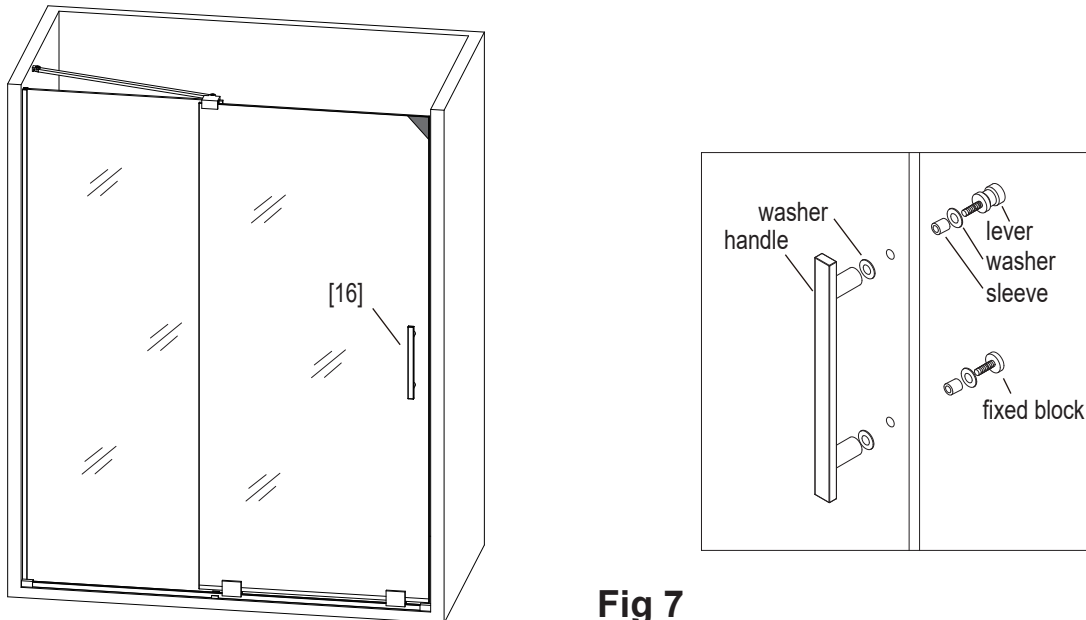

Fig 7
1. Disassemble the **Handle [16]** and install to the **Door [07]**. Install **handle** and **washers** from the front of **Door [07]**. Install **sleeves, washers, lever** and **fixed block** from the back of **Door [07]**. (Fig 7)